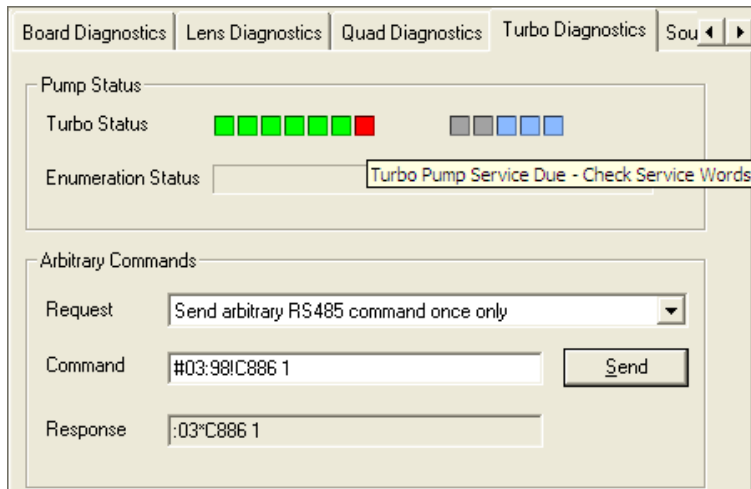

Figure 20 - Sending the service flag commands
After replacing the oil cartridge, the service flag for the pump (Figure 20) must be reset within the software. This is achieved by sending a command to the pump, using the following procedure.
4. Click the **Turbo Diagnostics** tab (Figure 20).